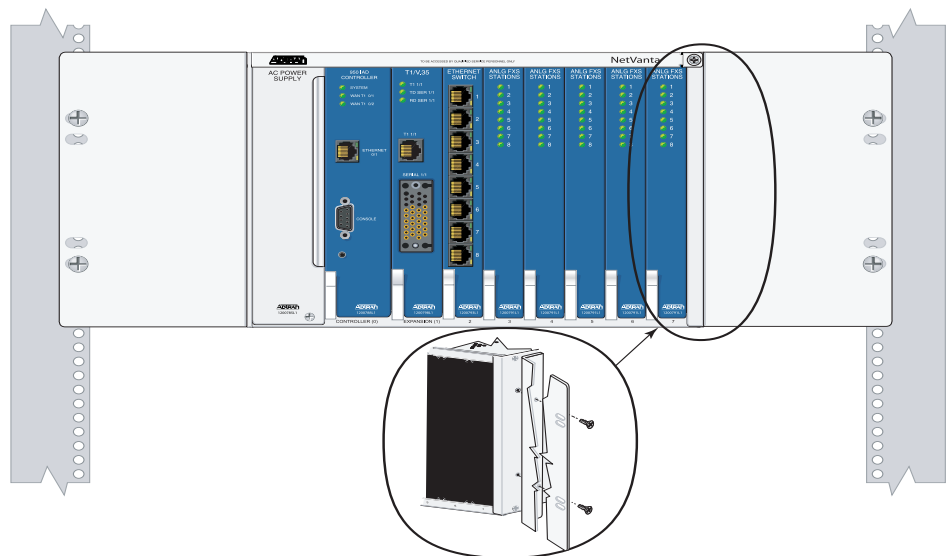

Figure 10. Rackmounting the NetVanta 950 IAD
1.	Attach the rackmount ears to the NetVanta 950 IAD chassis (see Figure 10).